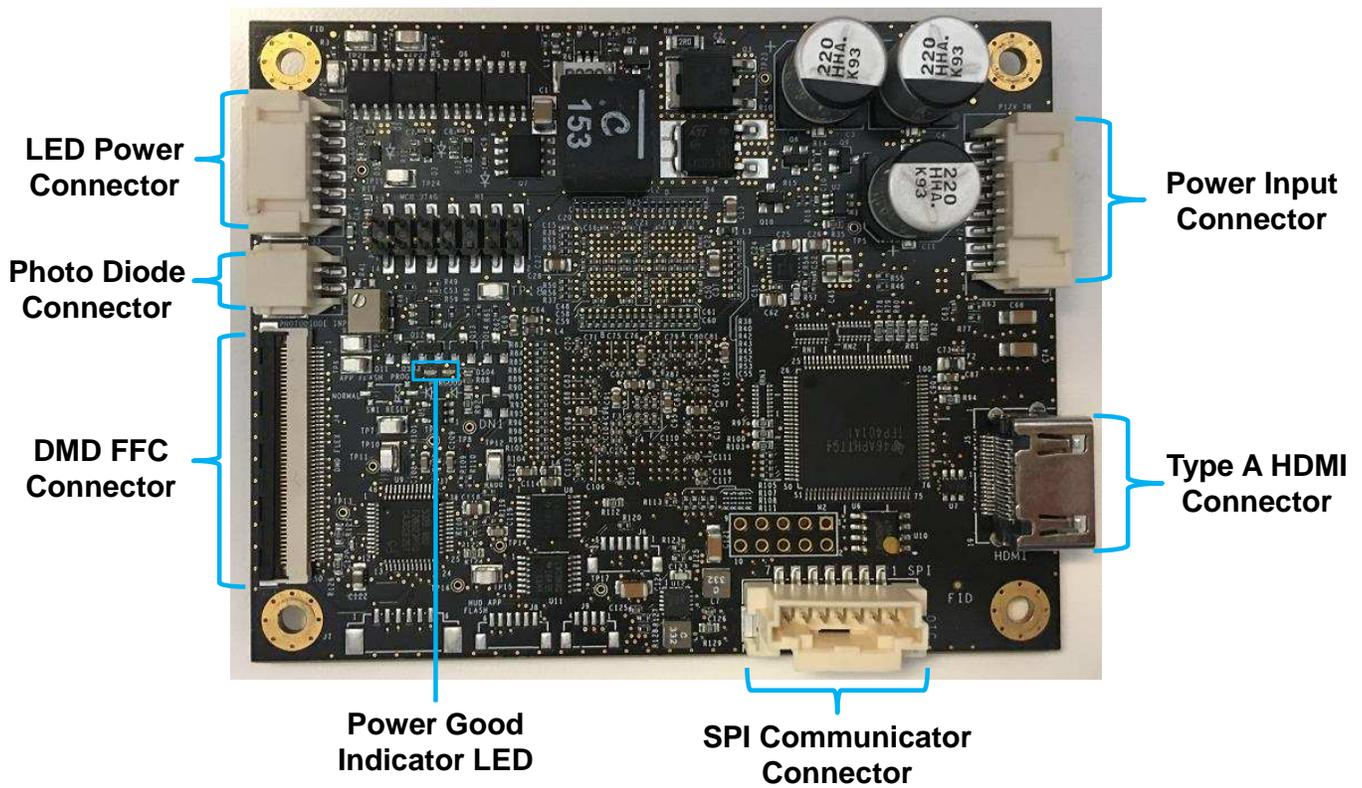

Figure 1-2. Formatter Controller Board Front
- Once the system is powered up, a green indicator light on the Formatter Board will illuminate, and the computer will detect an additional display called DLP_WVGA. See Figure 1-2 to locate the indicator LED.
2. Ensure the HDMI cable is connected from the PC to the Type A HDMI Connector on the LED Driver Board. See Figure 1-2 to locate the HDMI connector.
3. Connect the USB cable from the PC to the Cheetah board, and connect the SPI cable from the Cheetah board to the LED Driver Board. See Figure 1-2 to locate the SPI connector.